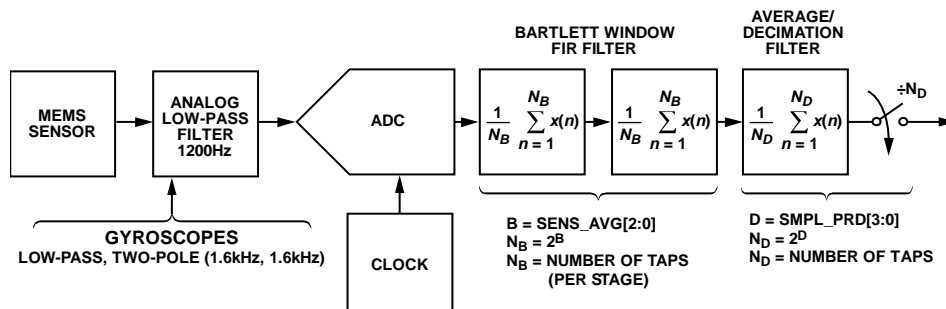

Figure 19. Signal Processing Diagram
The GYRO_OUT2 register (see Table 10) captures the bit growth associated with the decimation filter (see Figure 19) using an MSB justified format. The bit growth starts with the MSB (GYRO_OUT2[15]), is equal to the decimation rate setting in SMPL_PRD[3:0] (see Table 17), and grows in the LSB direction as the decimation rate increases.
Figure 19 provides a signal processing diagram that describes all of the user-configurable options, which influence sample rate and the frequency response. Using the factory default settings for the SMPL_PRD and SENS_AVG registers, the effective sensor bandwidth is 360 Hz.
[3:0]	Decimation setting (D), see Figure 19
response (see Figure 19). For example, set SENS_AVG[2:0] = 100 (DIN = 0xB804) to set each stage to 16 taps. When used with the default sample rate of 2429 SPS (no decimation), this reduces the band-width of the digital filter to approximately 49 Hz. The minimum setting for this filter is two taps per stage (SENS_AVG[2:0] ≥ 001).